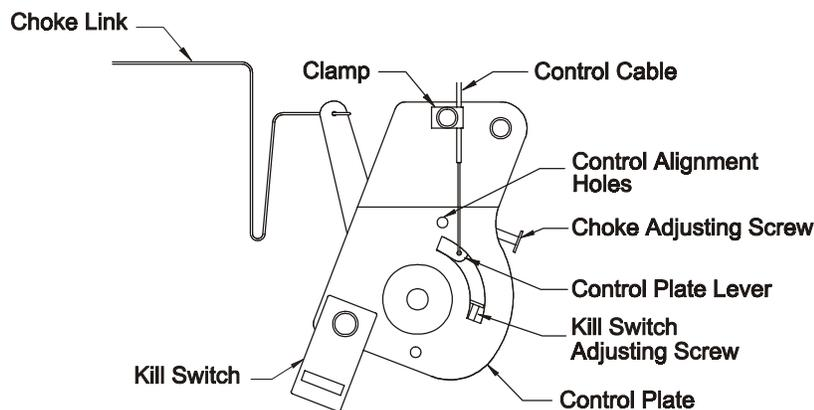

FIG 3
- c) Loosen clamp on engine control plate. (See Figures 3, 4 and 5). Attach inner wire of the throttle cable to the control plate lever and position cable under clamp, **do not** tighten clamp.